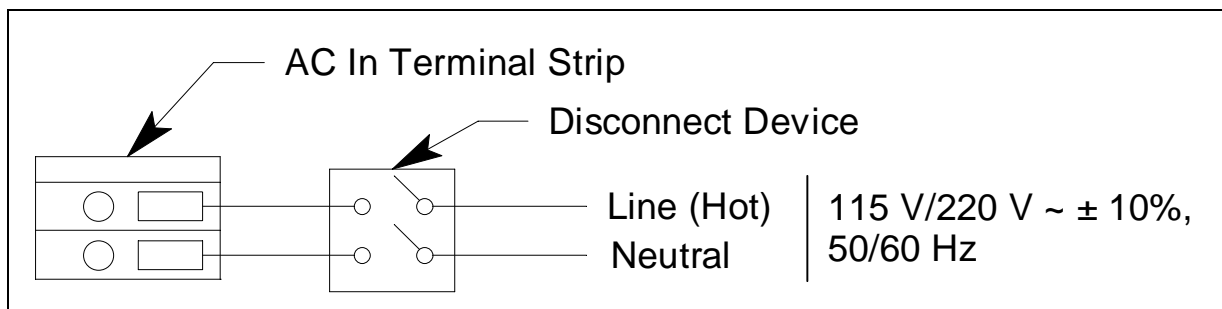

Figure 6. AC Power Wiring
6. Connect the line (hot) and neutral AC wires to the AC power terminal strip as shown in Figure 6.